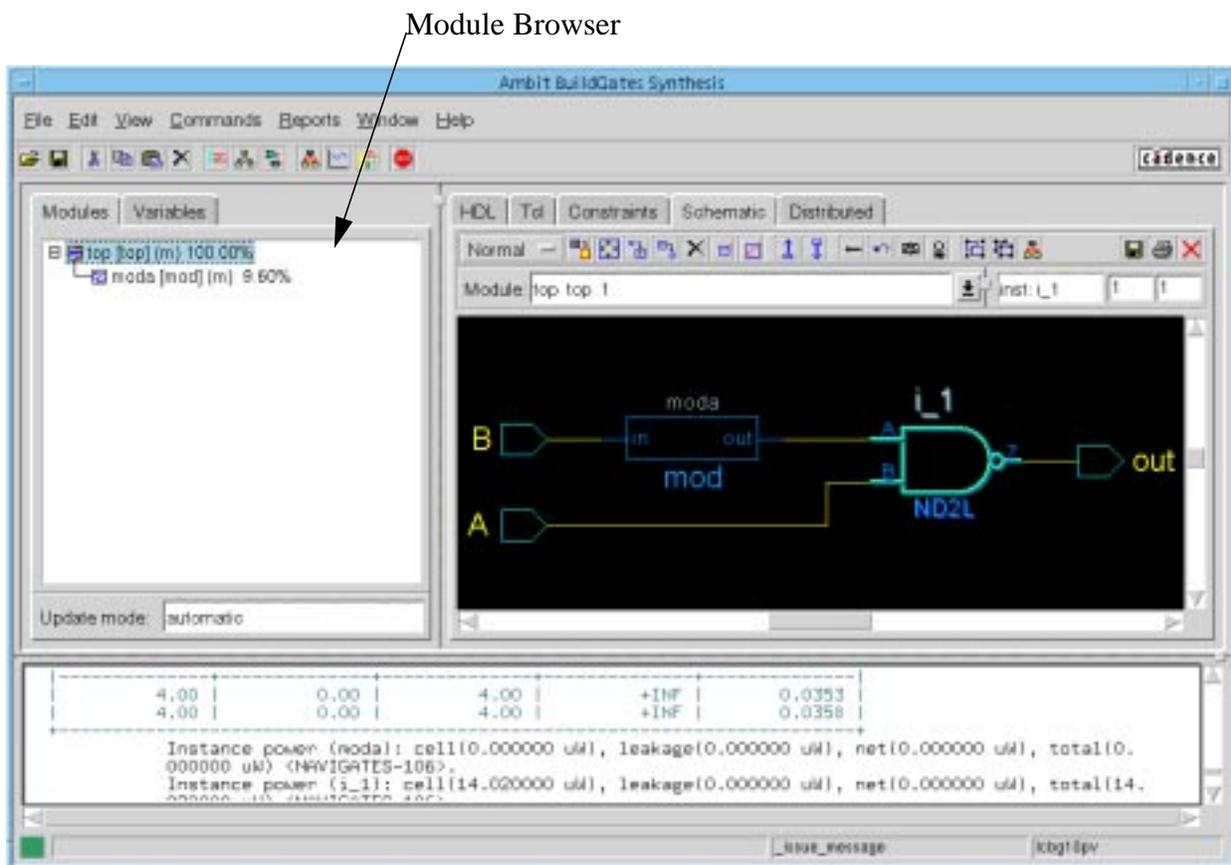

Figure 4-1 The Module Viewer
2. Click the *Power* tab to display the *General Preferences – Power* form, as seen in Figure 4-1.